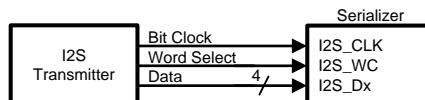
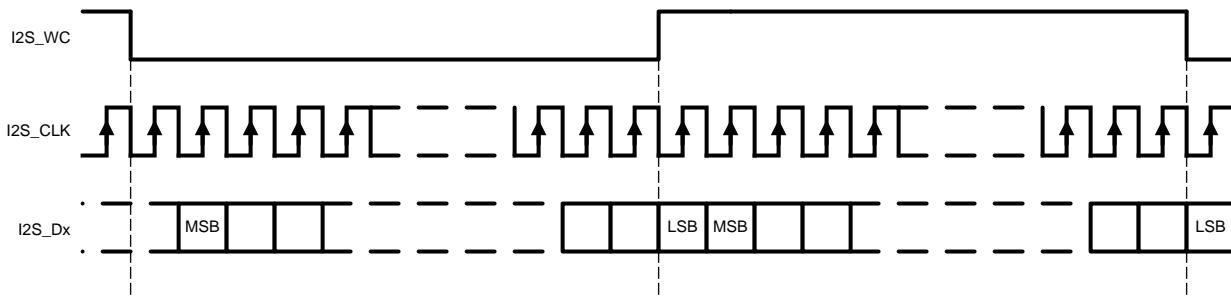

Figure 21. I²S Connection Diagram
Figure 22. I²S Frame Timing Diagram
The DS90UB947-Q1 serializer features six I²S input pins that, when paired with a compatible deserializer, supports 7.1 High-Definition (HD) Surround Sound audio applications. The bit clock (I²S_CLK) supports frequencies between 1MHz and the lesser of CLK/2 or 13 MHz. Four I²S data inputs transport two channels of I²S-formatted digital audio each, with each channel delineated by the word select (I²S_WC) input. Refer to Figure 21 and Figure 22 for I²S connection diagram and timing information.